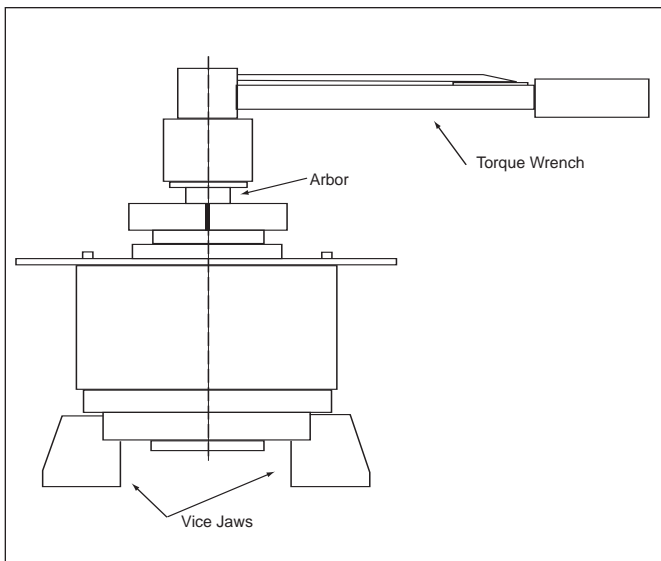

Figure 16 - Torque verification
- E. For applications requiring a precise release torque, the release torque setting of the clutch should be tested as shown in Figure 16. Verification of the release torque several times in both clockwise and counterclockwise directions is recommended. This service is available at the factory.